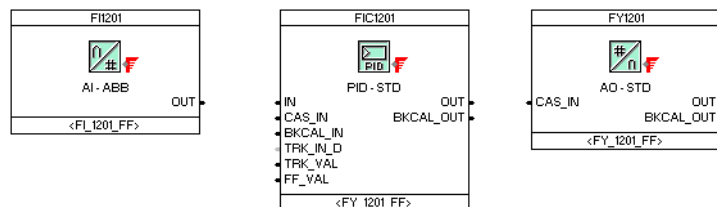

Figure 173. Function Blocks
6. Select a function block and place it on the canvas with the left mouse button held down. As an example use an analog input (AI), a controller block (PID) and an analog output (AO) as shown in Figure 173.